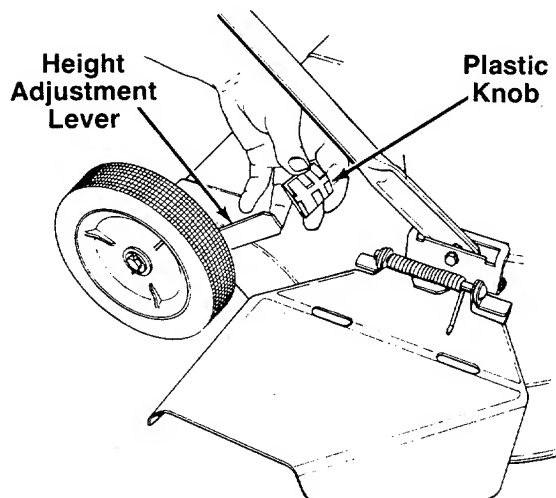

FIGURE 4.
1. Assemble the plastic knobs to the wheel height adjustment levers by pressing on or tapping lightly with a soft hammer. See figure 4.